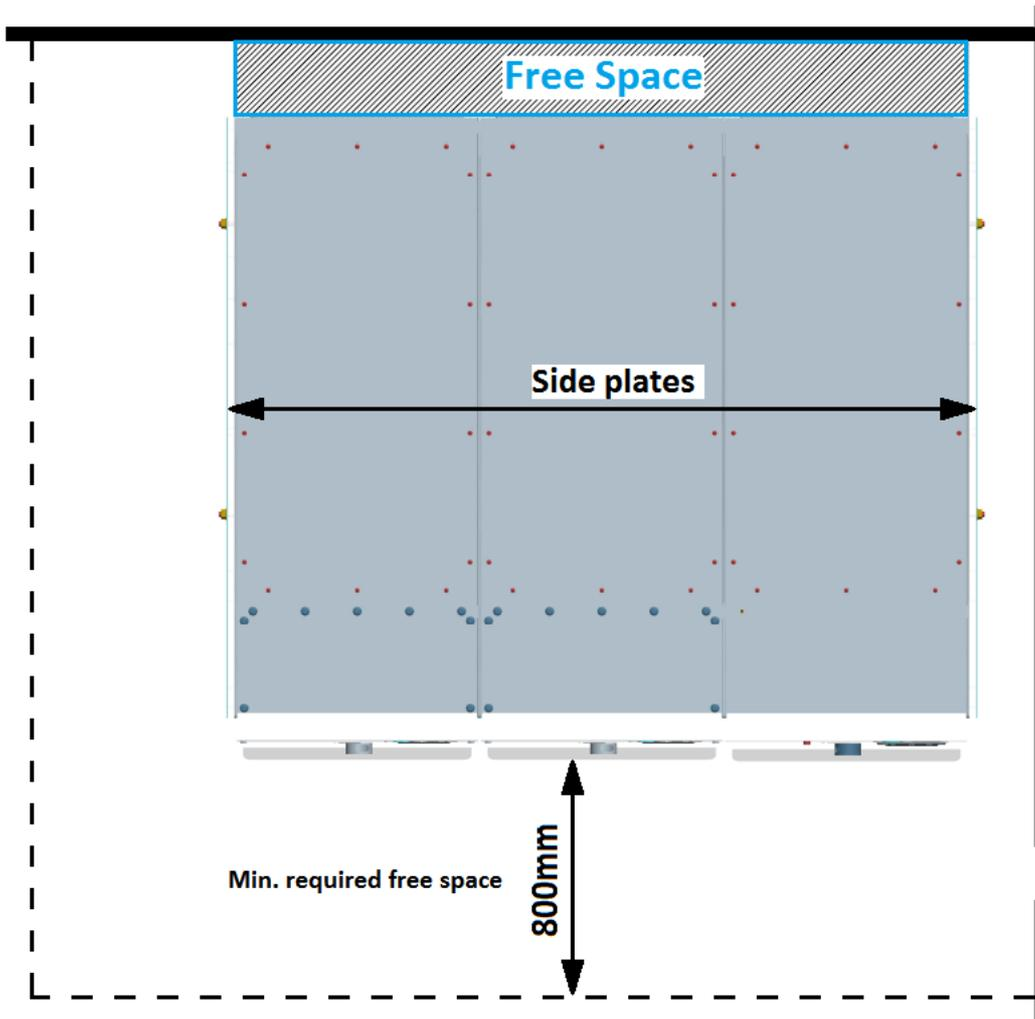

Figure 1: Top view of installed cubicles
- Between the rear side of the cubicles and the wall of the installation room, the necessary free space needs to be provided, as displayed in Figure 1. This layout corresponds with an assembly where the side plates of the cubicles reach the rear side of the installation room. As a result, the free space behind the cubicles is closed off.